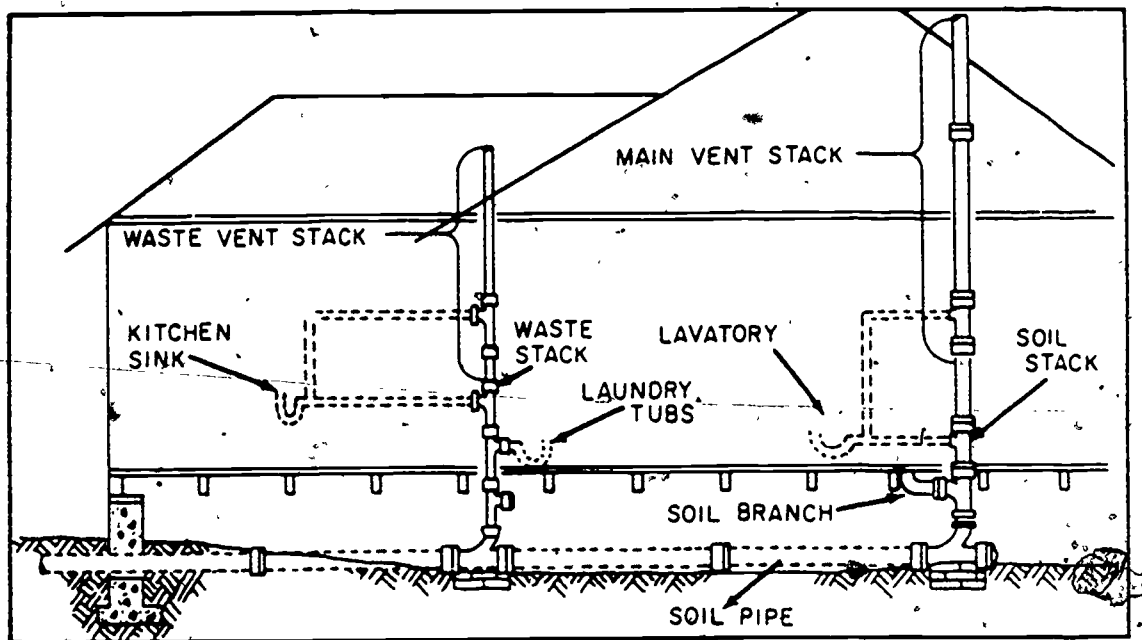
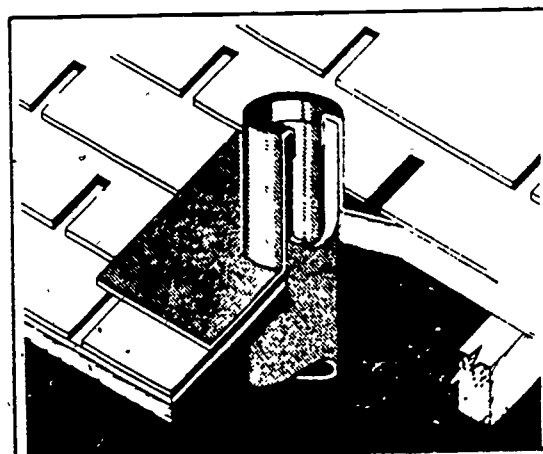

Figure 2-13 Identification of stacks
Figure 2-17 Installation of roof vent flashing.
**Main stack.** Every building in which plumbing is installed should have at least one main stack, which should run undiminished in size and as directly as possible from the building drain to fresh air above the roof. (See fig. 2-13.)
**Waste stack.** A waste stack is the vertical pipe that carries waste from any fixture, except water closets, to a junction with the soil pipe or to the building drain, as shown in figure 2-13. Waste stacks may be as small as 2 inches in diameter; the size of the pipe is determined
**Soil stack.** A soil stack is the vertical main pipe that carries human waste to a junction with a soil pipe or to the building drain, as shown in figure 2-13. The plumbing codes specify that a soil stack must be constructed of pipe with a minimum diameter of 3 inches.
**Vent stack.** A vent stack is a vertical pipe which provides circulation of air through the drainage system. The vent stack may be constructed on top of a soil stack, but only the portion of the pipe which is above the highest fixture rim or waste branch inlet is considered to be the vent stack, as you can see in figure 2-13
**Stack vent.** The stack vent is the extension of a soil or waste stack, that portion of the pipe which is above the highest fixture or branch inlet. (See fig. 2-13)
inches. Raising the stack through the roof and installing the roof flashing, as shown in figure 2-17, is a simple procedure on new installations before the roof is shingled. Cutting the hole and placing the roof flashing to secure a leakproof projection of the stack through the roof is more difficult when you are remodeling an old building where the roof is already installed. The opening in the roof is made watertight by roof flashings. On shingled roofs, extend the roof flashing under two courses of shingles above the pipe. On flat roofs, place the flashing between layers of roofing material with the finishing layer over the top of the flashing. Roof flashings are available in a number of different sizes, and the size of flashing used depends upon the size of the main and waste vents, which are the portions of the stack that project through the roof, as shown in figure 2-13. In certain areas of the country, it is possible for frost to close the vent at the roof outlet when the vent is exposed to temperatures below freezing. The air within the stack and vent pipes in the building is usually very close to the moisture saturation point. When this very humid air is emitted from the main and waste vent, it condenses and freezes if it is exposed to extremely cold temperatures. One way to prevent frost from closing the vent is to increase the pipe a size or two larger than the vertical stack. Another method that can be used in extremely cold climates is to install a high lead flashing, which provides an insulating pocket of air between the flashing and the end of the main and waste vent above the roof. The air pocket is open to the heat of the building and provides an intermediate warming area for gases leaving the main soil and waste vent.